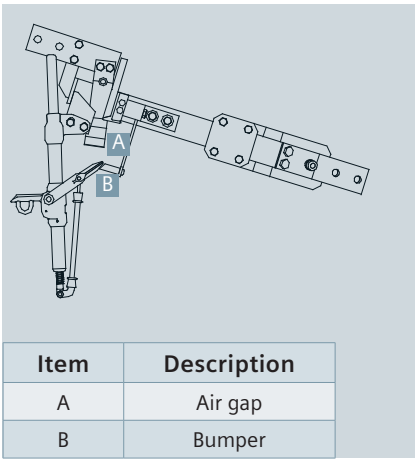

Figure 17: Lever position
- d) In the fully closed position, the lever should rest on the bumper, and stick above the bumper at least 1/8" (3.2 mm) (refer to Figure 17: Lever position).